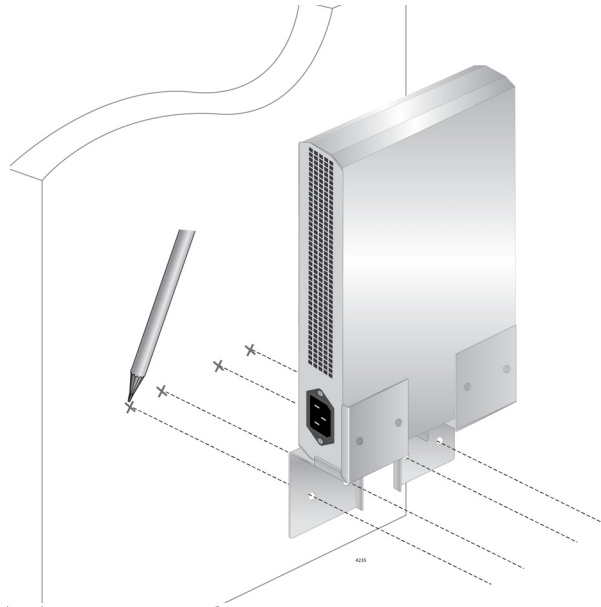

Figure 47. Marking the Screw Hole Locations
3. Have another person hold the switch with the brackets at the wall location where the switch is to be installed. Use a pencil to mark the wall with the locations of the four holes in the brackets. See Figure 47 as an example.